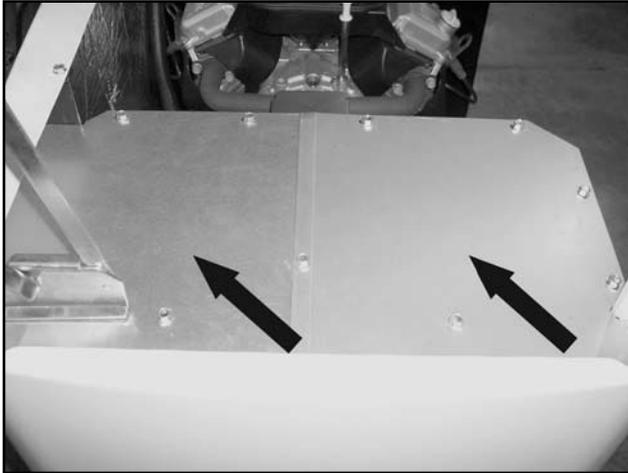

Figure 23.
1. Remove Top Exhaust Enclosure Covers: Using a 10mm socket, remove the nine bolts from the exhaust top covers. Remove covers. See Figure 23.